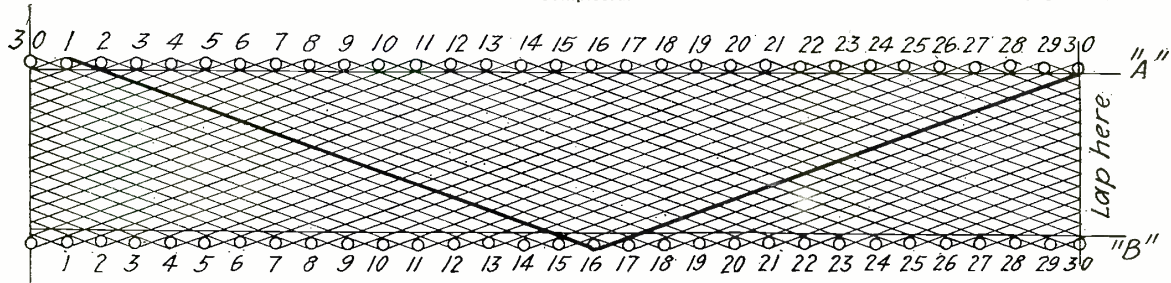
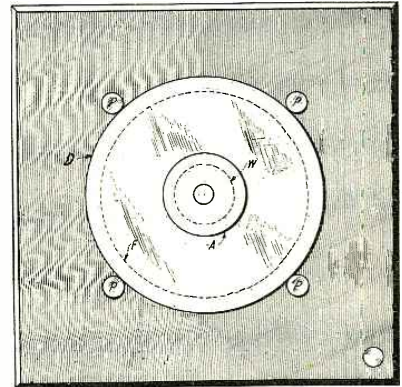

FIG. 1
Fig. 2
**T**HIS set can be used for sustained wave signaling, either telegraphic or telephonic, by means of oscillations set up by the standard French amplifier bulbs of the transmitter (see Figs. 1 and 2). With 320 volts on the plates and six volts on the filament, four bulbs con-
ling of high inductance. Complete diagram is given in Figure 1.
First, a grounded loop was tried (Fig. 2). The highest part being the point of the loop, which was 80 feet above water, but only 40 feet above the steel deck of the ship. This loop gave the strongest signals of all, the audibility being between 4 and 5.
Figure 1 shows connections for a "tickler coil". The "tickler coil," which, literally "tickles" the secondary, consists of about fifty turns of No. 24 wire, wound on a tube 2.5 inches wide, and having the same diameter as the secondary. It is placed in inductive relation with the secondary, either by slipping it over the secondary, or over the two guide rails of the secondary. The coupling only is varied—accomplished by moving the coil over the secondary, or toward it, or away from it.
Thru the additional connection from one of the secondary taps (the correct one determined by experiment), to one of the filament battery terminals, the reception of damped waves is made possible in a simple Audion circuit as in Fig. 2.
Fig. 1 is a plan drawing which when formed into a tube, is designed to just fit over a 2-inch diameter tube section, 1 1/4 inches wide. Our printed drawing should be cut out and pasted around this section.
The metal plates and spacing washers of this gap are made of the diaphragms and fibre rings used in telephone receivers. The base is of hard rubber or wood, while "P" in Fig. 2 may be a paraffined wooden dowel. This is about all that must be bought, for almost every experimenter has a knob, binding posts and heavy metal washers in his "junk" pile.
The base is 3 1/2" square and of any thickness. The edges are beveled. In the exact center a hole is drilled to pass an 8-32 machine screw, which is long enough to project for 1/8" on the upper side of the material. A brass stud "w" in Fig. 1 is tapped to take this screw. The metal measures 1/2" diameter by 3/16" thick. A binding post is fastened on one corner of the base, from which a wire runs to the center washer.
At this point the plates may be assembled. The diaphragms are shown at D in Fig. 2, while F represents the fibre spacing washers. The bottom plate M is made of 1/4" brass and rests upon W. Next comes a fiber ring, then two diaphragms, one ring, two diaphragms, etc., as in Fig. 3.
The coils are wound on a form which consists of four parts,—two sides, a center-piece and a bolt. The dimensions and shapes of these parts are shown in Fig. 1. Ordinary cigar-box wood will answer the purpose in constructing the sides and center-piece. The parts are assembled as shown in Fig. 2.
**Description:** In the diagram (Fig. 1) the strips are represented flat, while of course they are to be mounted around the cylinder. Those to be on the cylinder are numbered from A to K. Eight of them (A to H) are shaped like an L, and of dimensions about as shown in Fig. 3. The small x's under the lugs of the L's represent the strips or brushes, arranged around the inside of the containing case, as are also the brushes B' to the left of each strip. It will be noticed that these x's are arranged in parallel horizontal rows or sets; these will be designated by sets M, N, O and P. Each set will be mounted separately, one on each side wall of the case. One wall, however, must have besides its own set also the brushes B'. For this the wall containing set M is preferable, having fewest brushes. Notice that the brushes B' make contact with the strips continually, but those in the various sets (x's) only when the cylinder is so turned that the lugs of the L strips are under any particular set; otherwise they bear on the wooden cylinder. If the cylinder is turned so that set M makes contact, the crystal detector is in circuit; set N, simple audion; set O, single step amplifier; set P, double step.
Fig. 1 Schematic of the Rotary Selector Switch. A Crystal Detector, Audion Detector, a One-Step Amplifier or a Two-Step Amplifier May Be Connected by a Turn of the Knob.
The mast is constructed in the following manner: Bolt two of the 18' x 2½" x 1½" timbers together, allowing two feet for overlapping and placing the bolts 4½" from each timber end. Refer to Fig. 1. Now do exactly alike with two more of the same sized timbers. Having accomplished this lay the timbers together and bore two holes, one foot apart, correspondingly in one end of two of the bolted timbers. Then take the remaining 18' x 2½" x 1½" timber (which is to be the top section) and, allowing two feet for insertion, bore holes, insert between the timbers of the second section and tightly bolt, using the two 5" bolts, as depicted in Fig. 2. Then measure the entire mast, starting at the joint of the third section, marking off each foot on the double sections. Having finished this operation cut a twelve-inch piece of wood from the 20' x 1½" x 1" and screw into place as the lowermost step. Next carefully measure each foot marking on the mast and cut "steps" from the 20' x 1½" x 1" to fit, as shown in Fig. 3.